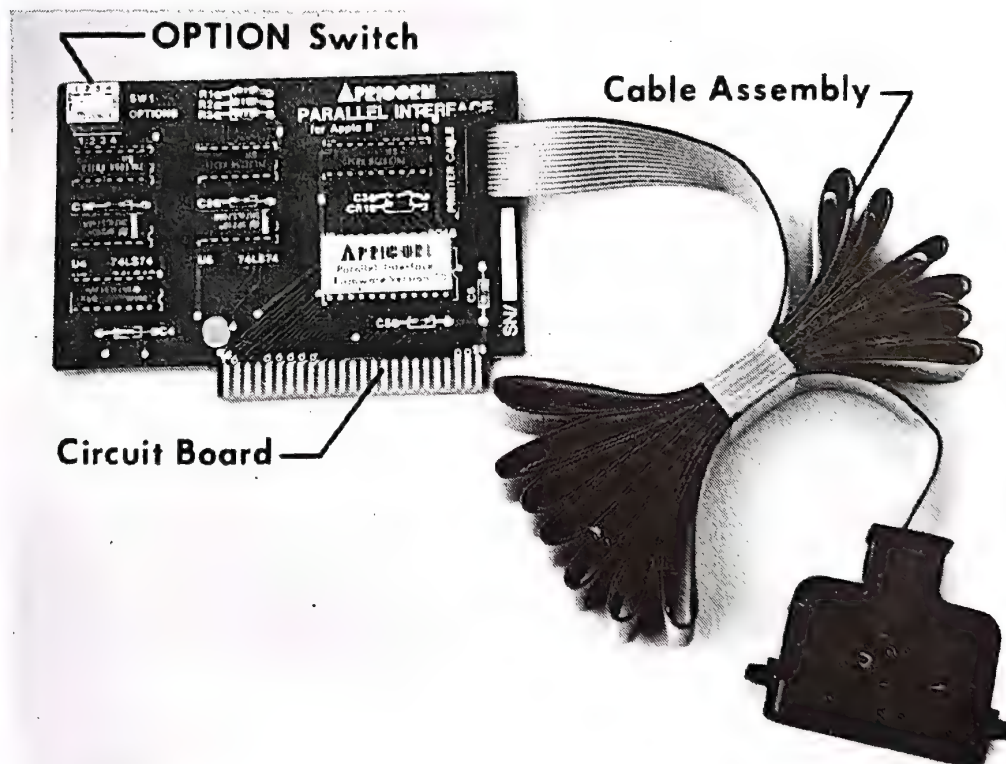

Figure 2
1. Examine the Parallel Printer Interface and cable assembly in detail. See Figure 2 for details. Notice the various parts of the circuit board and cable assembly. These will be referred to in later installation steps.